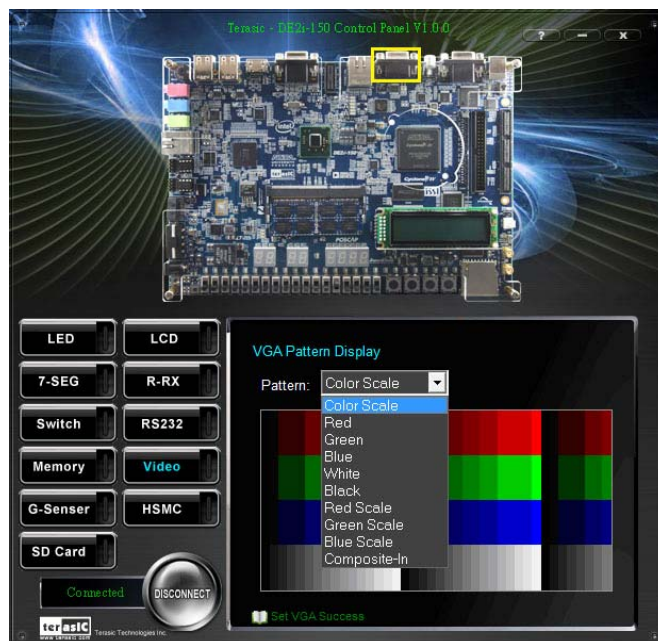

Figure 2-10 Controlling VGA display
1. Choosing the Video tab leads to the window in **Figure 2-10**.
4. Click the drop down menu shown in **Figure 2-10** where you can output the selected color individually.